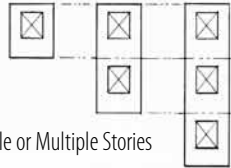

Figure 2 Single or Multiple Stories
- They are either one story in height and made as wide as possible, or cast narrower to span vertically for two or three floors (**Fig. 2**)